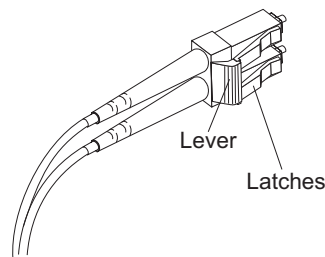

Figure 29. LC-LC fibre-channel cable lever and latches
1. On the end of the LC-LC cable that connects into the SFP module or host bus adapter, press down and hold the lever to release the latches, as shown in Figure 29.